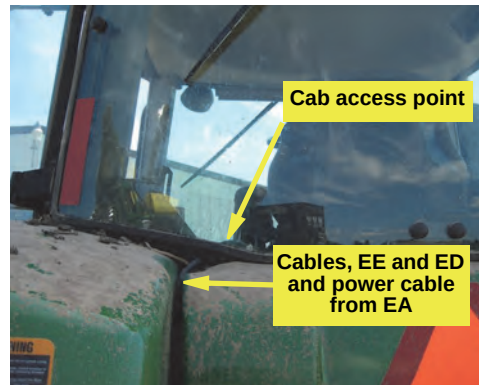

Figure 2b: Cables out from cab
- c. Connect WAS cable **EE** and SR valve cable **ED** to **EC**'s connectors labeled 'WAS' and 'PVE' respectively. Route the cables, with the power cable from **EA**, out the back window and down to the left side of the machine. Route the cables along the frame with existing cables and hoses (Figure 2b).